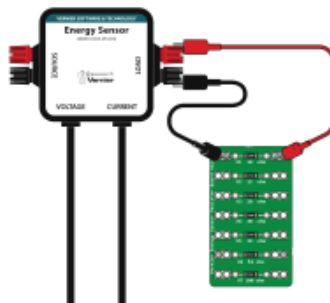

Figure 4
- a. Clip one end of a wire lead to the black Load terminal and the other end of the wire lead to the hole on the left side of the 10 ohm resistor (see Figure 4). **Note:** If you have a black wire lead, use it. If not, you can use any other color.